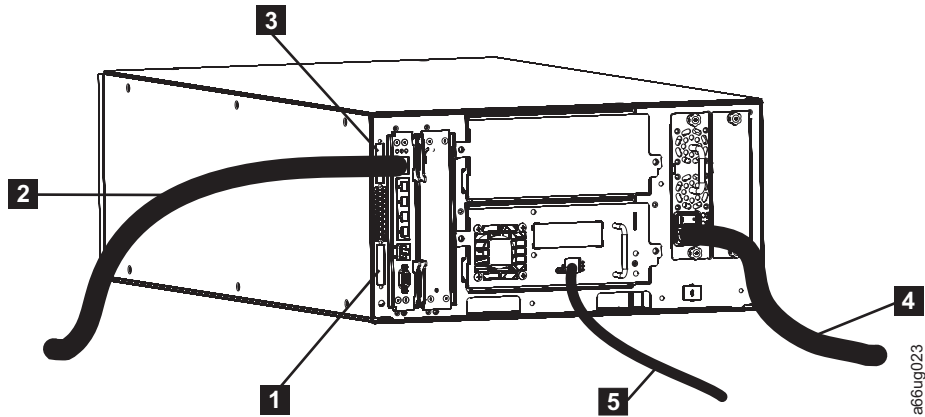

Figure 3-15. Cabling of a 5U library with fibre drives
1. Install the upper module communication terminator (**3** in Figure 3-15).
2. Install the lower module communication terminator (**1** in Figure 3-15).
3. Install one end of the customer-supplied Ethernet cable (**2** in Figure 3-15) in the Library Control Blade Ethernet port, then connect the other end of the cable to your network.
4. Install one end of the drive fibre cable (**5** in Figure 3-15) in a fibre drive in the library, then connect the other end of the cable to your network. Repeat this for every fibre drive in your library.
5. Install one end of the power cord (**4** in Figure 3-15) in the receptacle in a power supply in your library, then connect the other end of the cord to your power source. Repeat this for every power supply in your library.